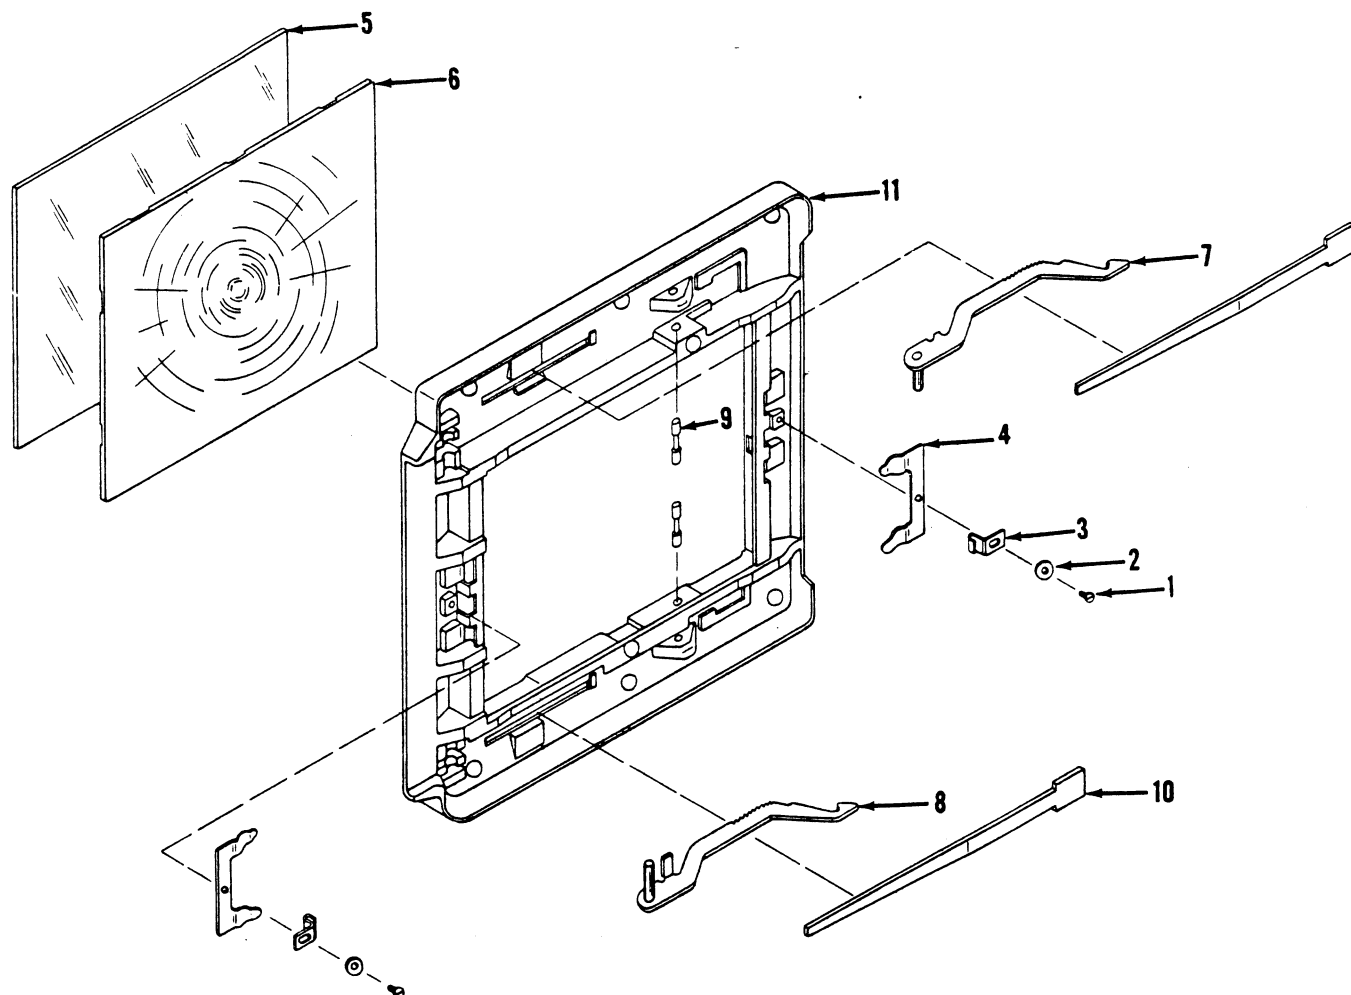

Figure 8. FOCUSING FRAME ASSEMBLY
**T. FOCUSING FRAME ASSEMBLY - DISASSEMBLY AND REASSEMBLY (Figure 8)**
- a. Remove machine screw (1), flat washer (2), focusing hood retainer (3) and focusing screen retainer (4) on two sides.
- b. Remove ground glass focusing screen (5) and Ektalite screen (6).
- c. Remove arm assembly (7) or (8) by lifting upward on hook end of arm and pulling straight backward.
- d. If necessary, remove spring pin (9) and arm assembly spring (10) by depressing spring (releasing spring tension on shaft of pin) and driving pin towards large opening in focusing frame (11). Repeat same procedure on opposite side.
- e. Wash ground glass focusing screen (5) and Ektalite screen (6) with soap and water. Rinse thoroughly and dry.
- a. If arm assembly spring (10) and spring pin (9) have been removed from focusing frame (11), locate spring in position in focusing frame, depress spring and drive pin in place.
- b. Use a small tool to lift upward on tapered end of arm assembly spring (10) and assemble arm assembly (8) or (7).